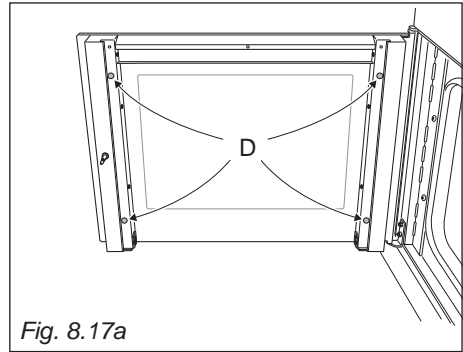

Fig. 8.17a
- Check that the four rubber pads are in place (“D” in fig. 8.17a).